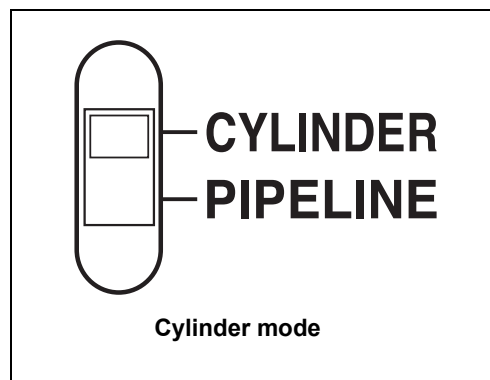

Figure 5.1
See the operation workflow in Figure 5.1 below. Follow each step of the workflow for using the endoscopic CO₂ regulation unit.
- 1 Set the gas source selection switch on the rear panel to the “Cylinder” mode. (See Figure 5.1)